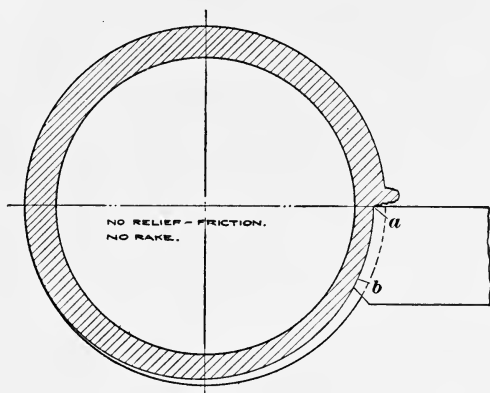

Fig. 21
**Pipe-Threading Dies.**—The proper shape of die is now an important consideration, since steel pipe has supplanted wrought-iron pipe. Formerly, when wrought iron pipe was exclusively used, the dies were so shaped and held in the stocks that the cutting edge, *a*, Fig. 21, engaged the tube on the center axis and parallel to the diameter. This